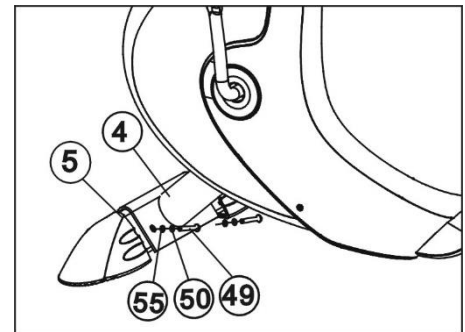

Figure1
Montati stabilizatorul frontal (5) la cadrul principal (4) cu 2 suruburi M8*20 (49), $\Phi 8$ saibe plate (55) si $\Phi 8$ saibe elastic (50). (Refer. figure 1)